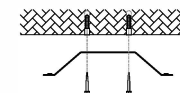

Figure 9
2. Insert the supplied rubber pieces into the alignment holes on the ceiling, then secure the mounting plate on the ceiling using the included screws (Figure 9).